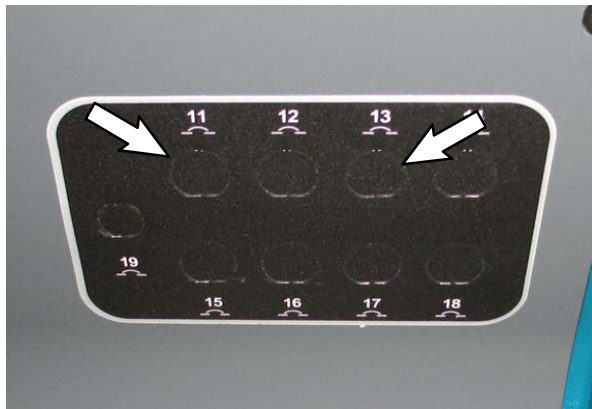

FIG. 6
17. Remove the blanks from the CB13 and CB11 locations on the electrical panel. (Fig. 6)